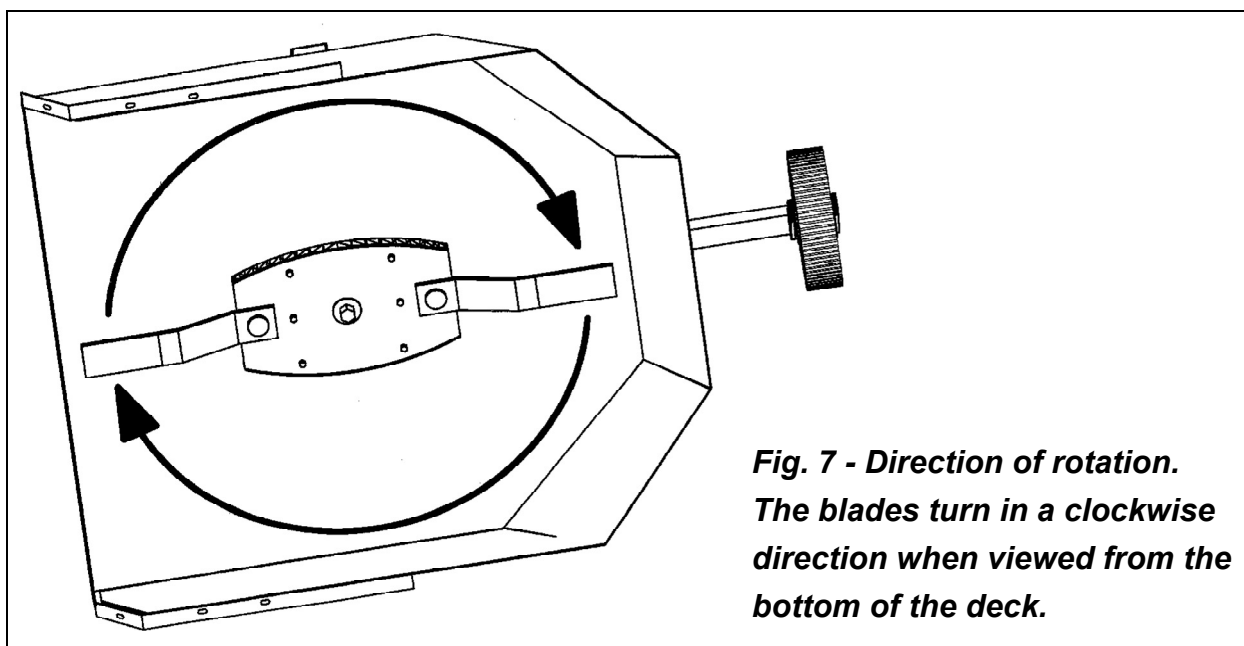

Fig. 7 - Direction of rotation.
5. Place the new blade making sure that the cutting edge is towards the direction of rotation. The blade turns in a clockwise direction when viewed from the bottom of the deck (see fig. 7).
2. Attach the blades making sure the cutting edge is towards the direction of rotation (see fig. 7).